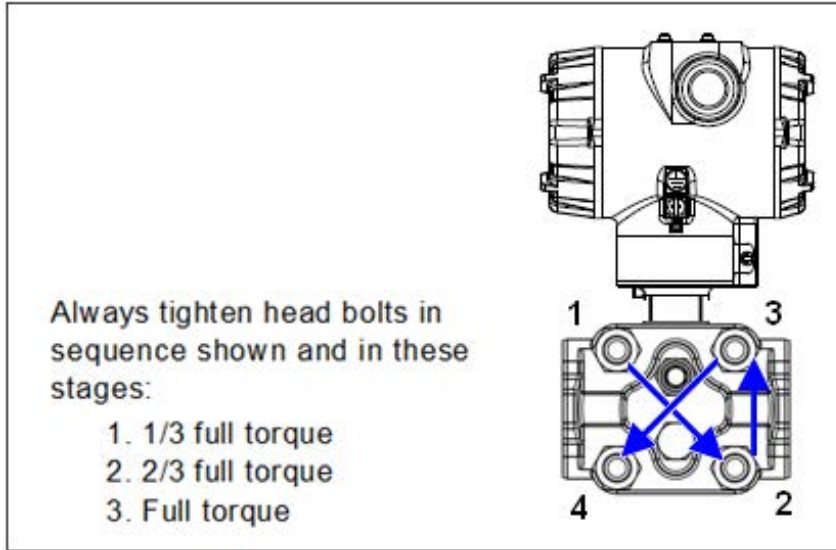

Figure 23 – ST 700 Standard Transmitter - Head Bolt Tightening Sequence
4. Loosen the nuts in the sequence shown in Figure 23.
12. Using a torque wrench, gradually tighten the nuts in the sequence shown in Figure 23. Tighten head bolts in stages of 1/3-full torque, 2/3-full torque, and full torque. Refer to the values in Table 18 for torque requirements versus transmitter type and model.